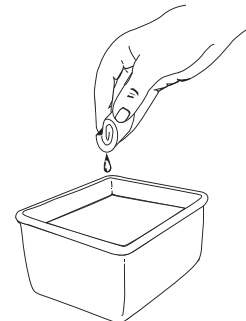

Fig. 32
3. Wash the filter in detergent and water (Fig. 32). Rinse the filter thoroughly and allow it to dry.